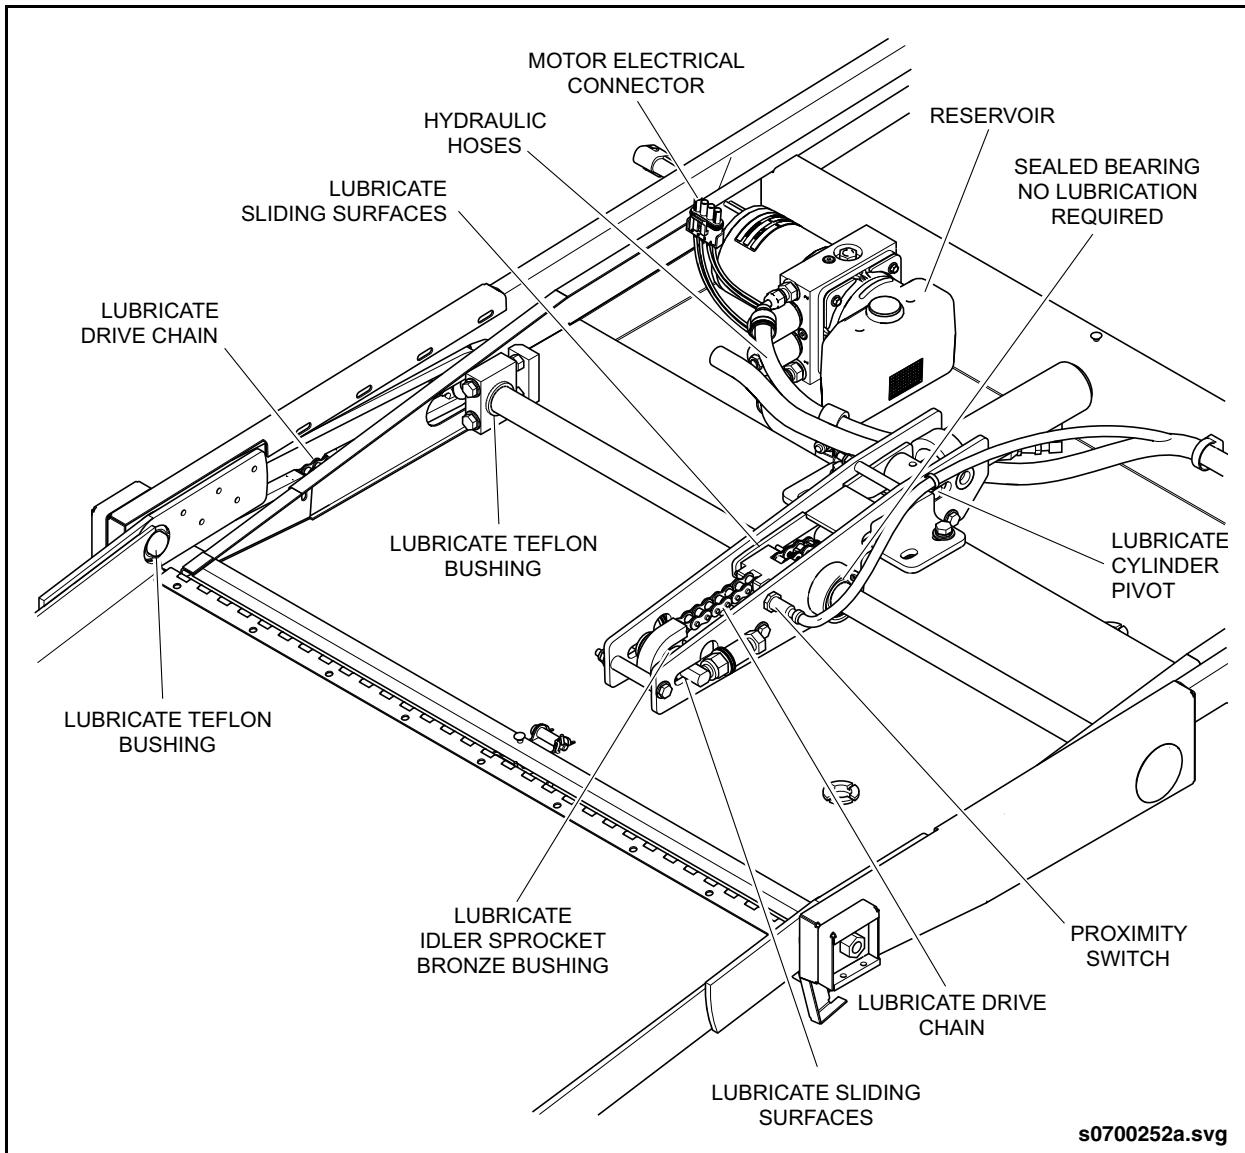

Fig. PM-24: Wheelchair Ramp Inspection
- Inspect ramp pump electrical connectors for condition and security. See "Fig. PM-24: Wheelchair Ramp Inspection" on page 56.